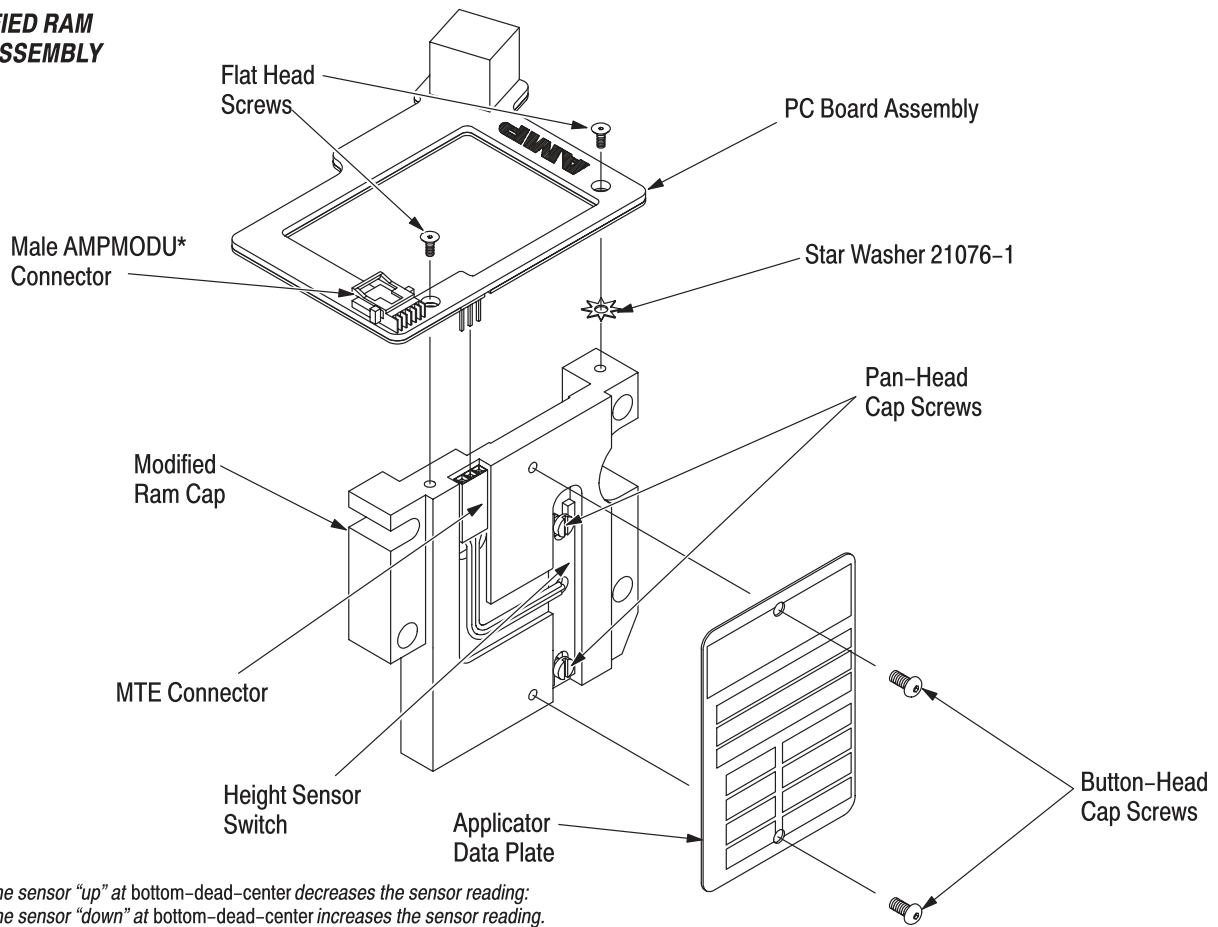

Figure 4
- a. Remove two button head cap screws securing the applicator identification (data) plate. See Figure 4.
7. Remove data plate by removing button-head cap screws securing the data plate to the applicator housing. See Figure 4.